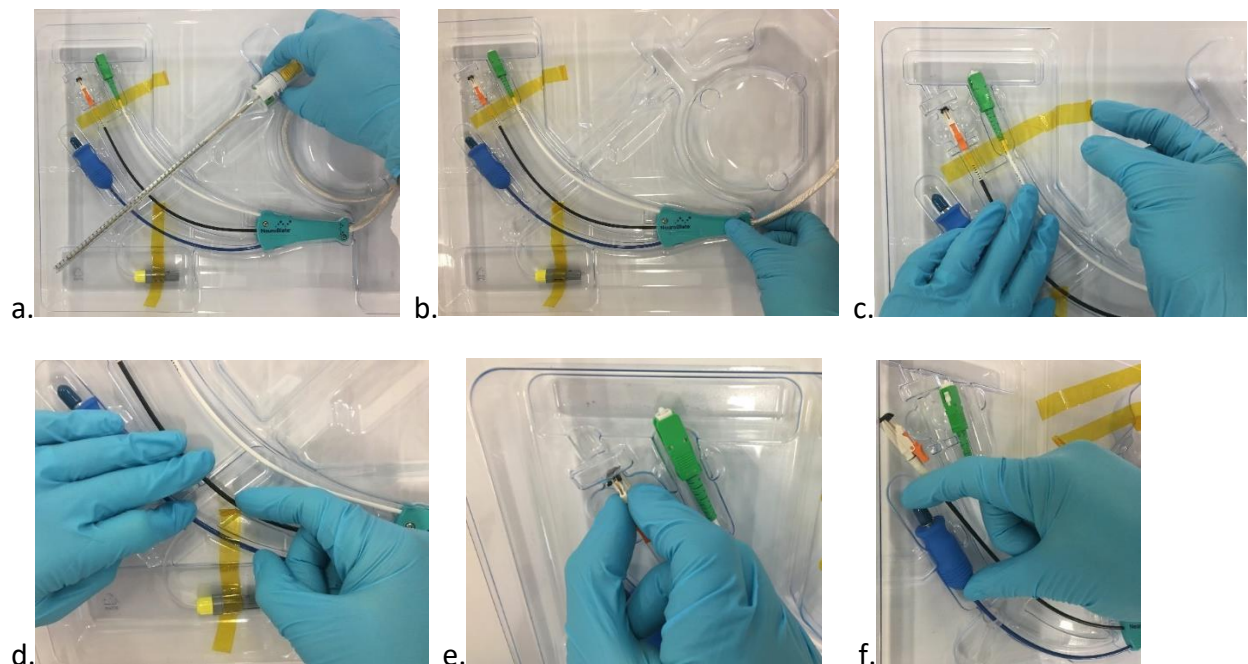

Figure 8.6: Remove the LDP from the tray.
- Remove the LDP main section by gently pulling up on the probe interface (Figure 8.6 a)
- Lift the clamp shell from the tray by gently pulling up on its plastic body (Figure 8.6 b)
- Remove tape holding the probe detection and temperature sensor plugs (Figure 8.6 c & d).